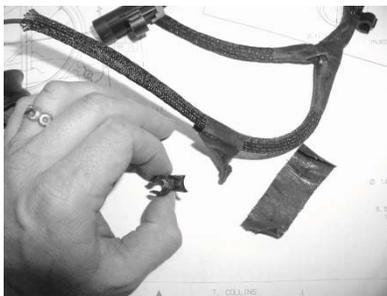

Fig.11
- 2) The rear coolant vent line on 1997-2000 Corvette and 1998-2000 Camaro/Firebird, located in the valley, must be replaced to clear your new high performance manifold. Replace with GM Part #12602544 front only crossover, and (2) #12602540 plugs. Torque vent pipe bolts to 12 N/m (106 in/lbs).
- 3) Remove plastic clips from knock sensor wire harness by unwrapping tape. Discard (Fig.11).